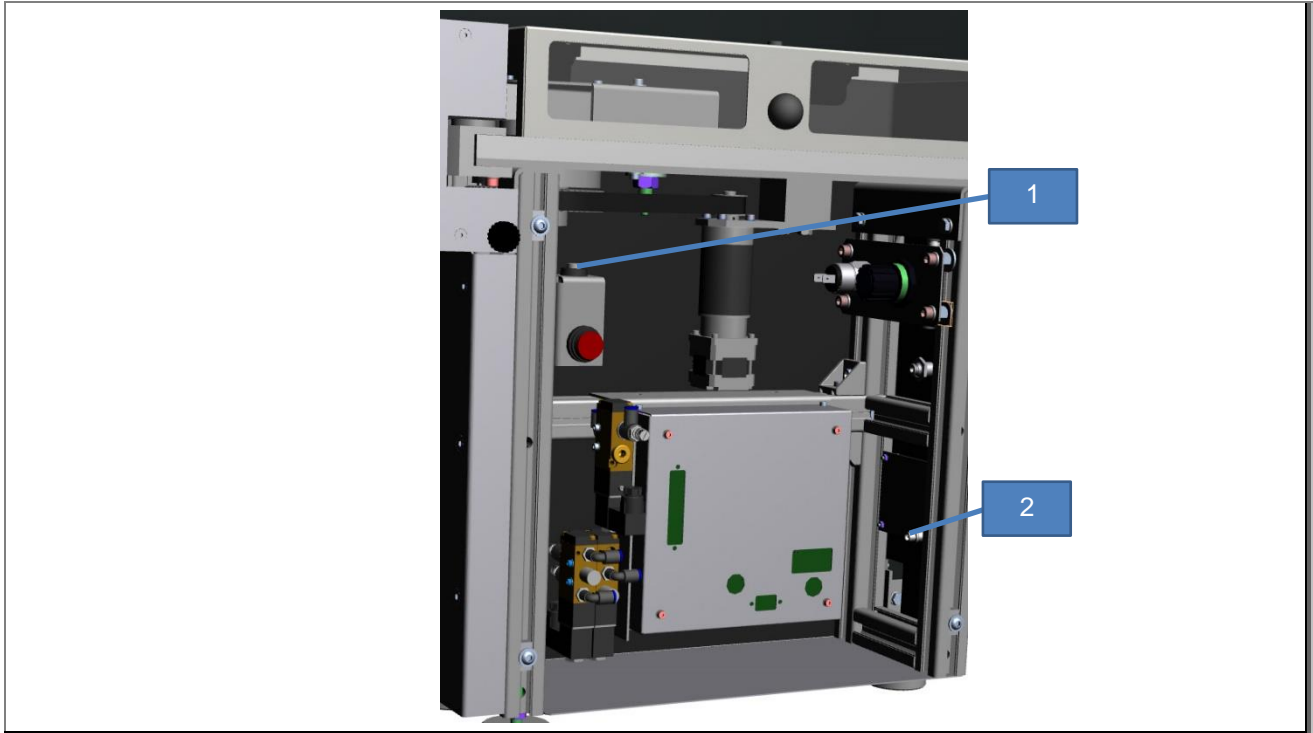

Fig. 3: Manual mode
2. Keep the manual control button (1) pressed and plug the power supply unit into the designated electrical connection (2) in the safety circuit (see Fig. 3: Manual mode).
3. Keep the manual control button (1) pressed for a few seconds (see Fig. 3: Manual mode).